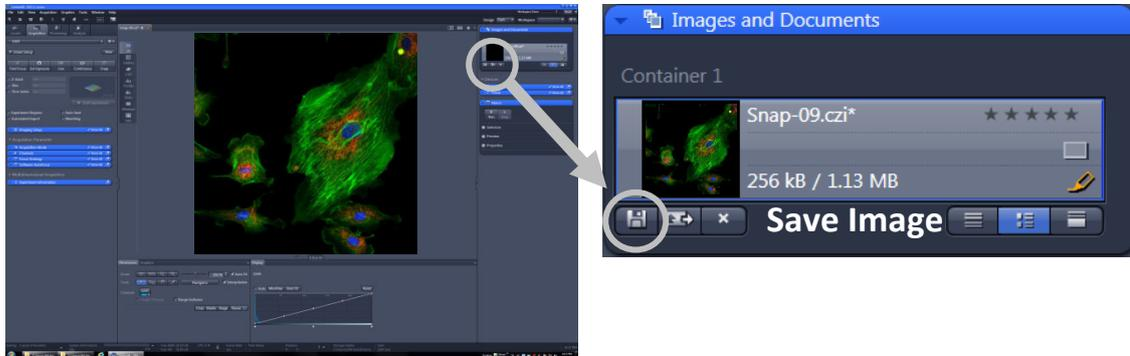

Fig.35 Save image
- ① To save your acquired images, click on the **File - Save** or **Save As** button, or click on the  icon at the bottom of the Right tool Area (Fig. 35).
- ② The WINDOWS **Save As** window appears.